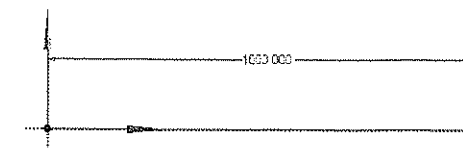

Figure 4-5 The dimension of the line
5. In the **Details View** window, click in the edit box displayed on the right of the dimension name (**H1**) under the **Dimensions: 1** node and then enter **1000** in it; the length of line instantaneously changes to 1000 mm and is displayed in the **Graphics** window, as shown in Figure 4-5.